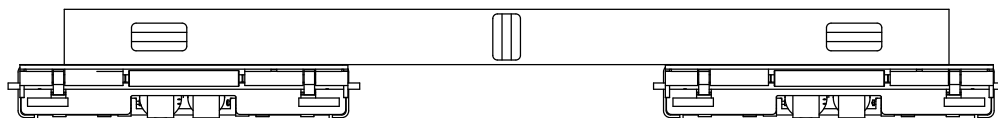

Fig. 9d
6. Verify platforms are level to each other, Fig. 9d.